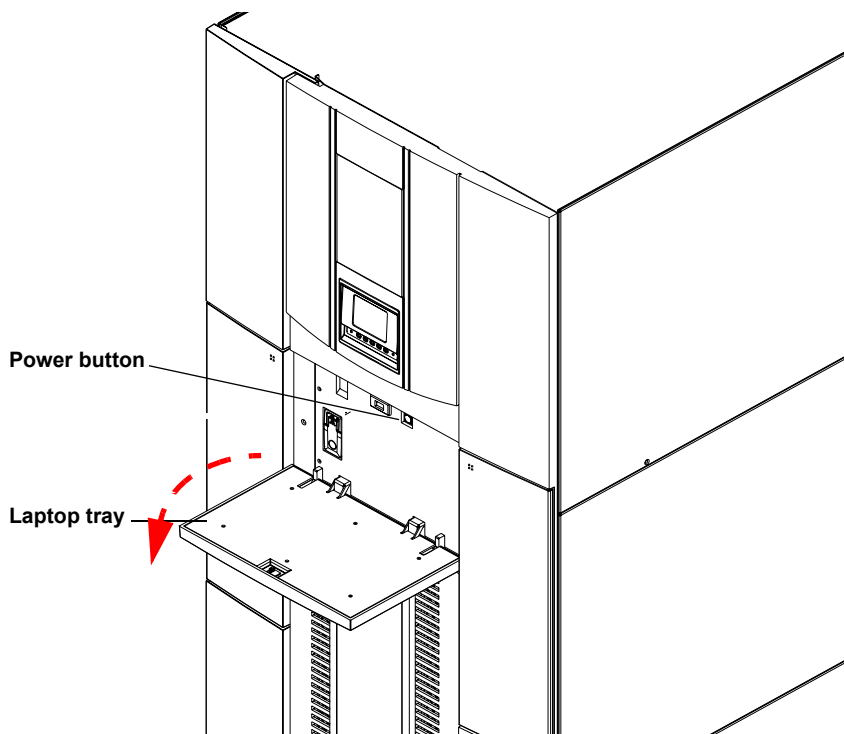

Figure 70: Powering up the library
- a. Press the power button located behind the laptop tray on the front of the library (see Figure 70).